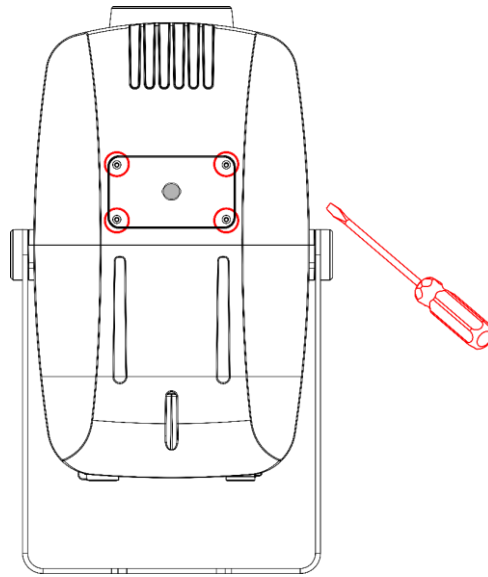

Fig. 14
- 03) Loosen the 4 screws on the head cover, as shown in Fig. 14.